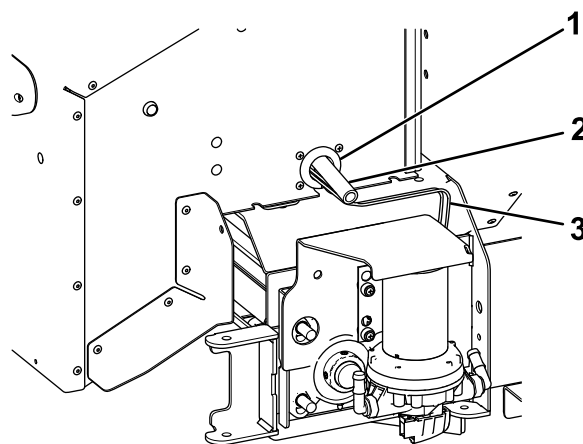

Figure 22
13. Bring the rear cover close to the spreader and route the pump connector through the previously installed grommet (Figure 22). For pintle chain Forge 2.0 spreaders, route the 45 cm (18 inch) hose from the spray nozzle through the grommet as well.